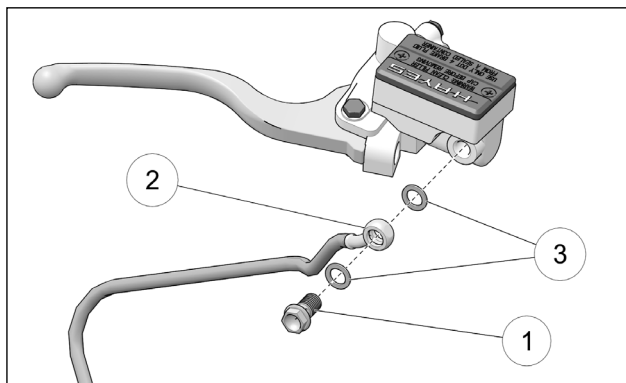

Figure 29
- Insert banjo bolt (1) in end of brake line (2) making sure to install the copper crush washers (3) against both sides of the brake line banjo end. See Figure 29.